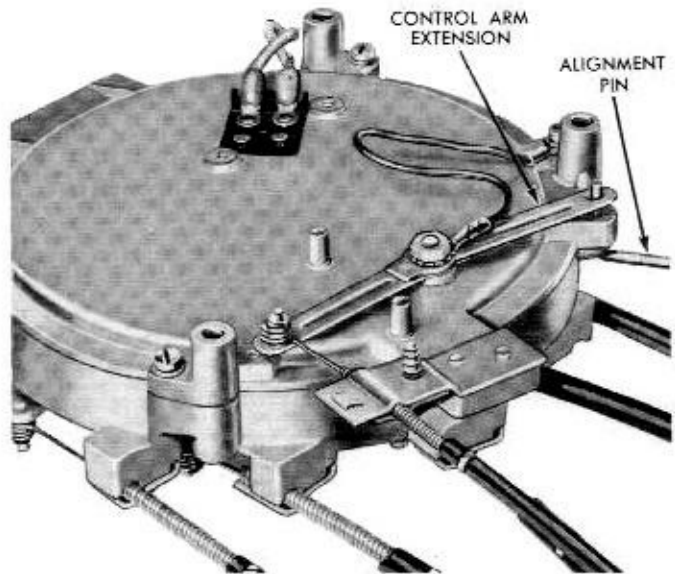

Fig. 5-9—Alignment Pin Installed in Servo—1958—(E-2645)
4. Install the alignment pin in the servo control arm extension. (See figure 5-9.) Install the control cable on the control arm and in the clamp; then, tighten the clamp screw.